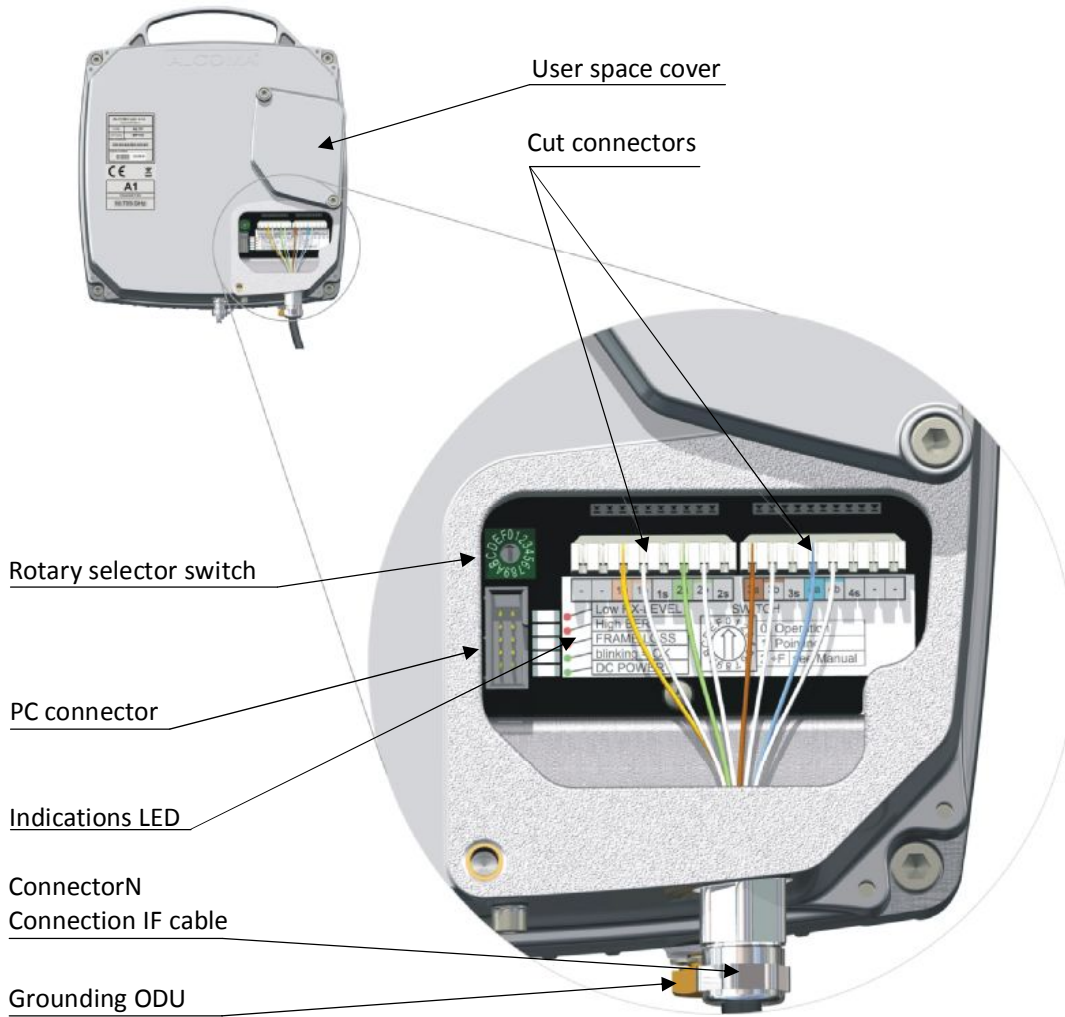
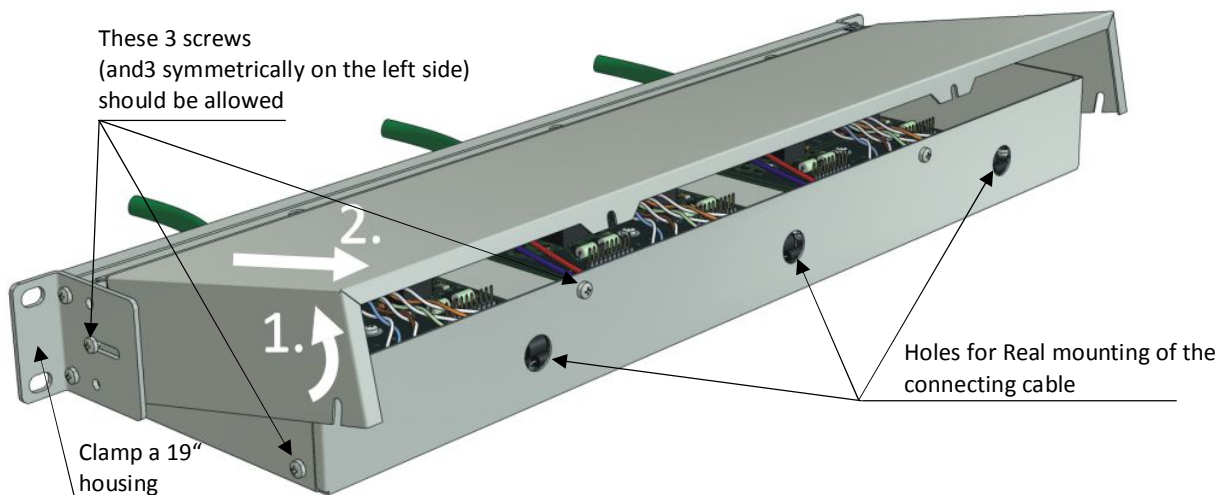

Figure 6 The ODU user space
Figure 17 The removal of the ALS3 cover
- The cover of the protected terminal box is removed using a Phillips screwdriver (figure 17) or the cover of the terminal box space in ODU is opened using an Allen wrench no. 5 (Figure 6).
- After the ALS3 is removed from the 19" installation cabinet remove the cover by loosening of 6 M3 bolts (see figure 17) by two or three turns, and remove it by lifting and shifting of the back part.